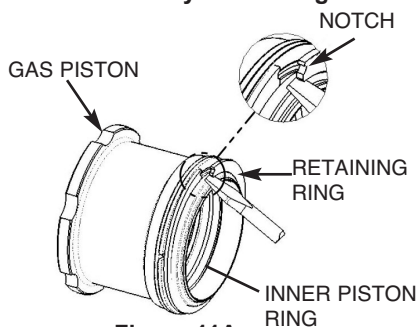

Figure 11A
1. Use a small flat head screwdriver to remove the retaining ring (Figure 11A). Engage the screwdriver blade in the retaining ring notch to pry the ring out of the groove.
NOTE: The gas piston assembly has an inner piston ring (Figure 11A) installed by the factory. This inner ring should not be removed during disassembly or cleaning.